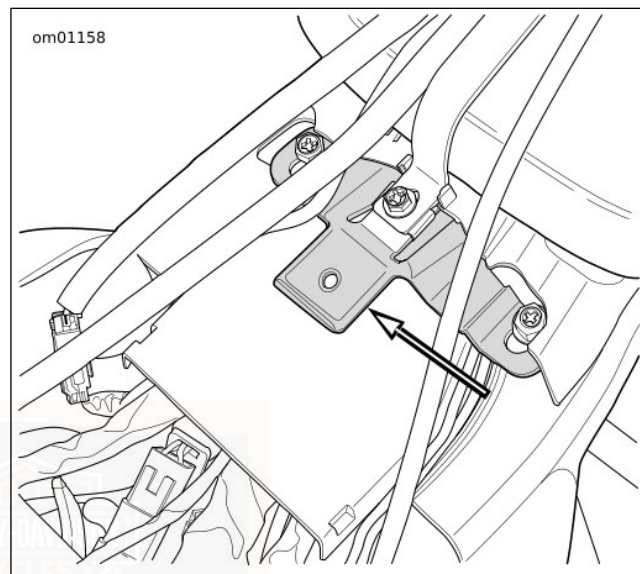

Figure 103. Seat Tongue
3. See Figure 103. While pushing seat forward, raise rear of seat until bracket clears top of body assembly. Push seat rearward slightly to free seat from tongue on rear fuel tank bracket.
4. See Figure 103. While pushing seat forward, raise rear of seat until bracket clears top of Tour-Pak. Push seat rearward slightly to free seat from tongue on rear fuel tank bracket.